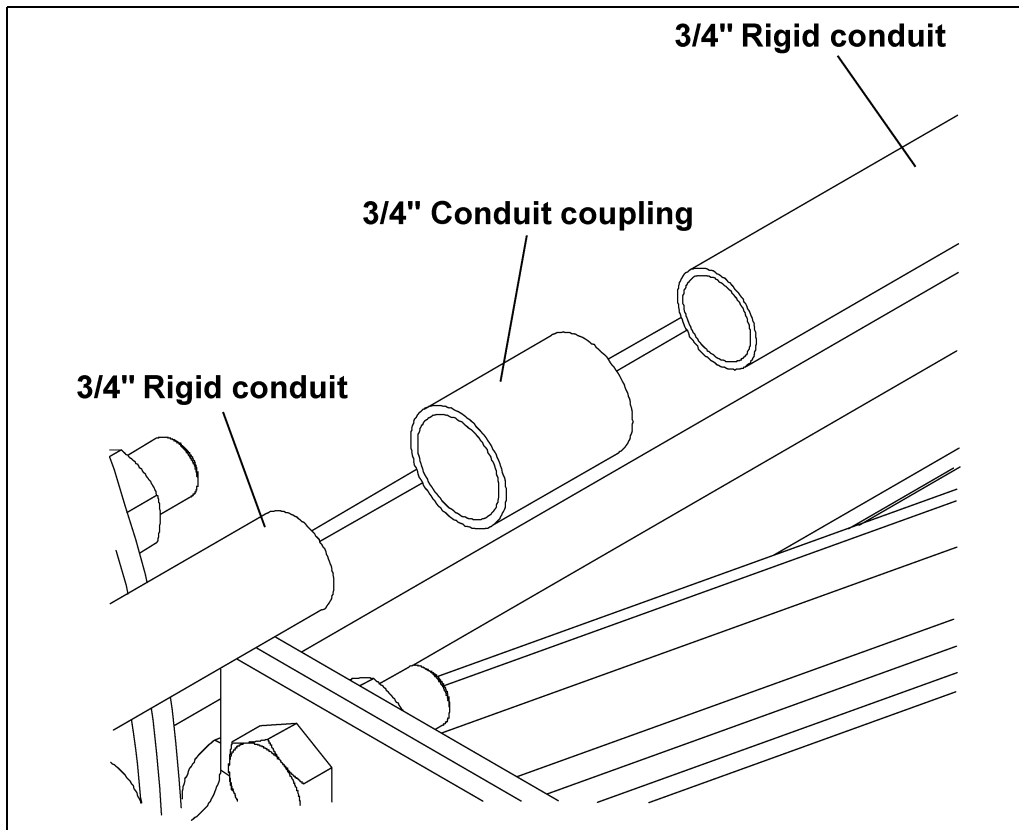

Figure 5AI
- B. Connect the rigid conduit together using one (1) 3/4" conduit coupling between each piece of conduit. (See Figure 5AI.)